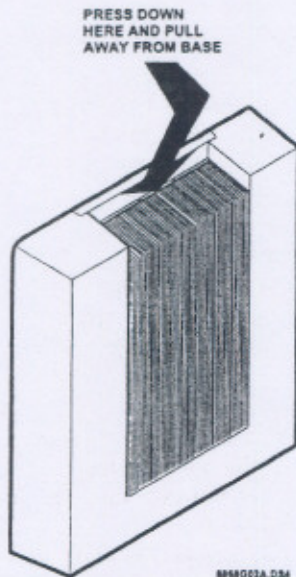

Figure 2. Removing the Enclosure Cover
- 1) Remove the enclosure cover by pressing down on the top center of the cover, and pull the cover away from the base (see Figure 2). Set the cover aside.